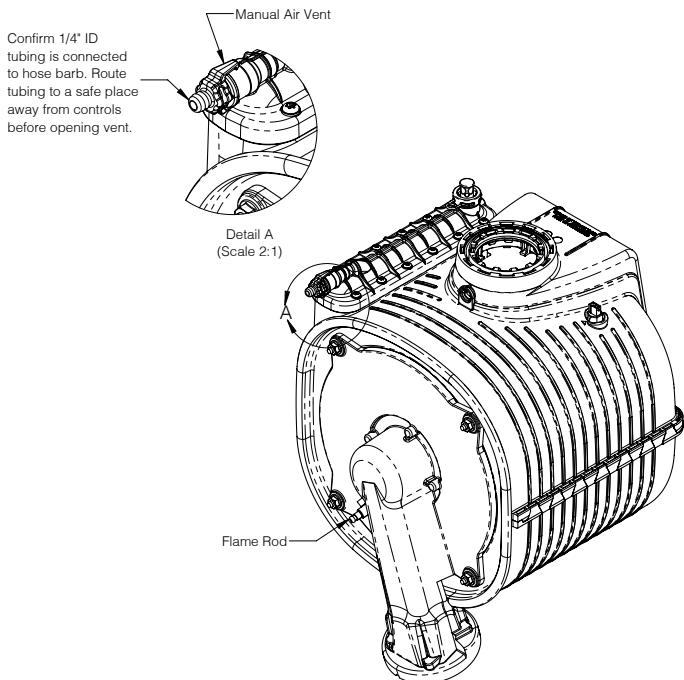

Figure 15-1: Manual Air Vent Location
4. Eliminate air in boiler by bleeding from heat exchanger manual air vent on top left side of heat exchanger (Figure 15-1).
B. Measure carbon monoxide (CO) level after 5 minutes of operation above 50% firing rate. This can be done by providing DHW demand. Ensure door is sealed before taking combustion readings.
11. Perform a check of ignition safety shut-off device. With burner firing, carefully unplug black ignitor/flame sensor wire at burner door using a pair of insulated pliers (Figure 15-1). Burner should shut off immediately.